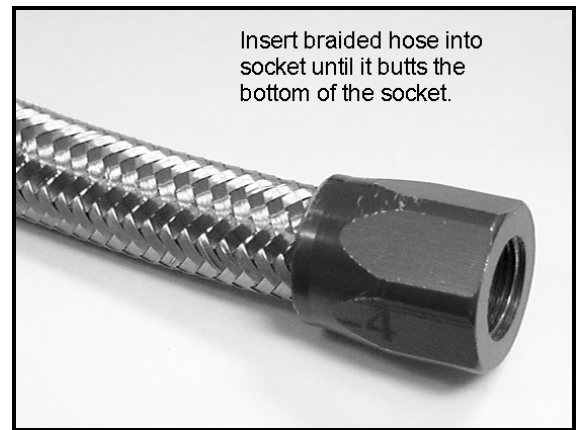
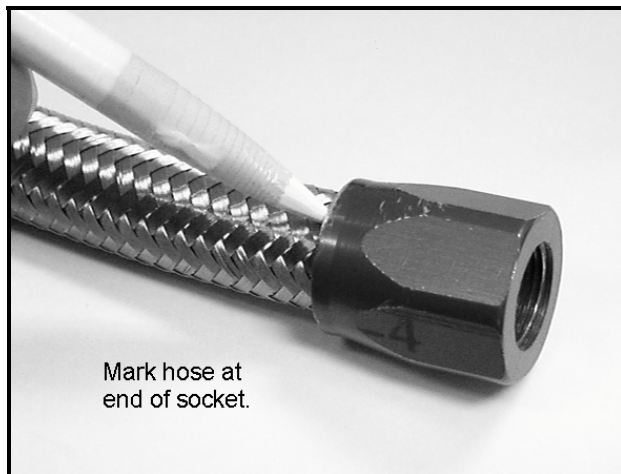

Figure 2
Figure 3
3. Insert the hose into the socket, until it butts the bottom of the socket. See Figure 2. Using a white grease pen, mark the hose at the base of the socket. See Figures 3 and 4.